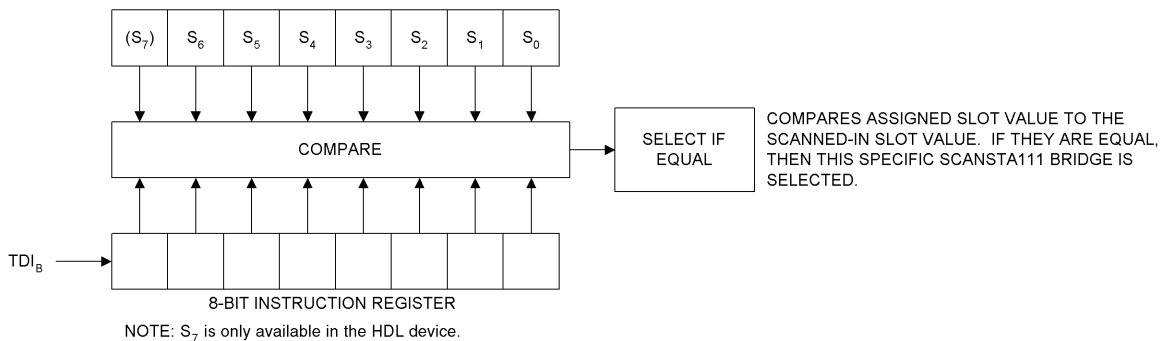

Figure 6. Direct Addressing: Device Address Loaded into Instruction Register
Each 'STA111 within a scan network must be statically configured with a unique address via its S(0-6) inputs. While the 'STA111 controller is in the *Wait-For-Address* state, data shifted into bits 6 through 0 of the instruction register is compared with the address present on the S(0-6) inputs in the *Update-IR* state. If the seven (7) LSBs of the instruction register match the address on the S(0-6) inputs, (see Figure 6) the 'STA111 becomes selected, and is ready to receive Level 2 Protocol (i.e., further instructions). When the 'STA111 is selected, its device identification register is inserted into the active scan chain.